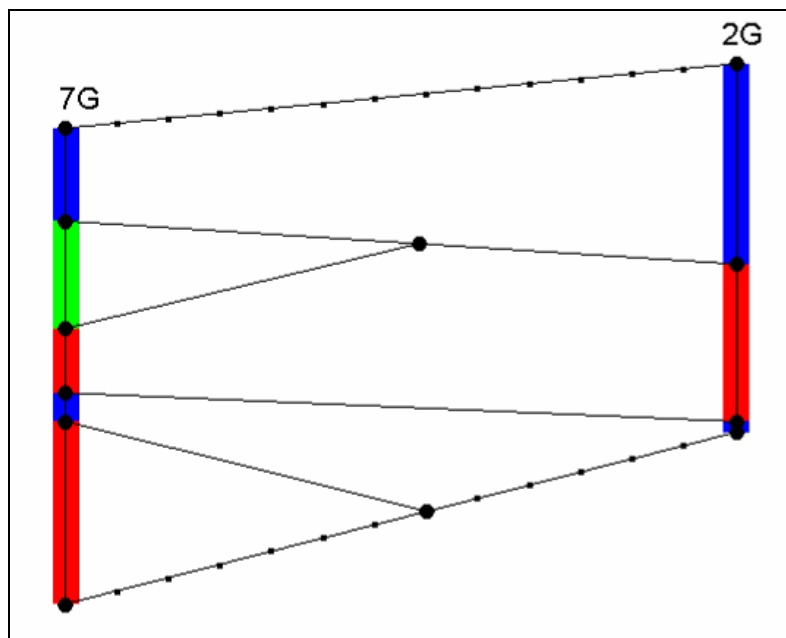

Figure 8.1 Cross Section 7G-2G
4. Create all the arcs shown in Figure 8.1.